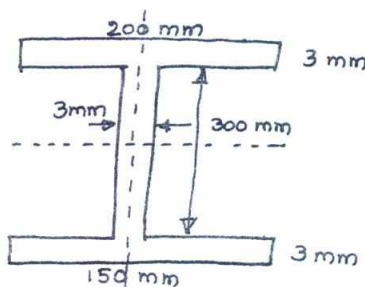

Fig.Q4(c)
- c. Determine the plastic and section modulus of a built up section as shown in Fig.Q4(c). (10 Marks)